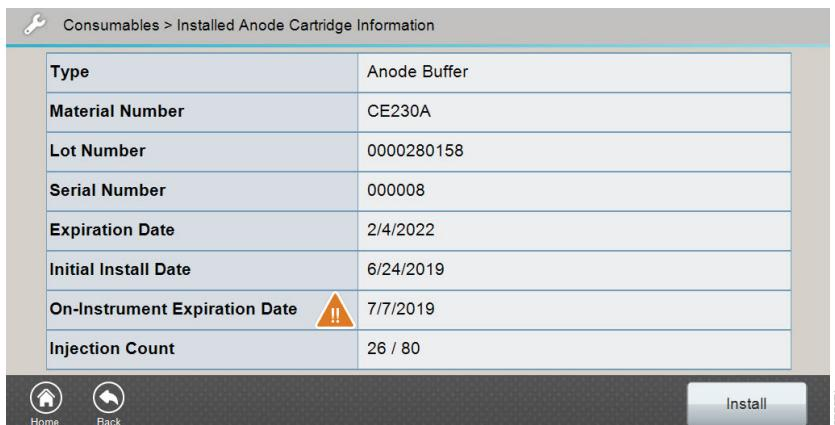

Figure 15. 'Installed Anode Cartridge Information' screen.
2. Select **Anode Buffer** on the 'Consumables' screen (Figure 11). This will open the 'Installed Anode Cartridge Information' screen (Figure 15).